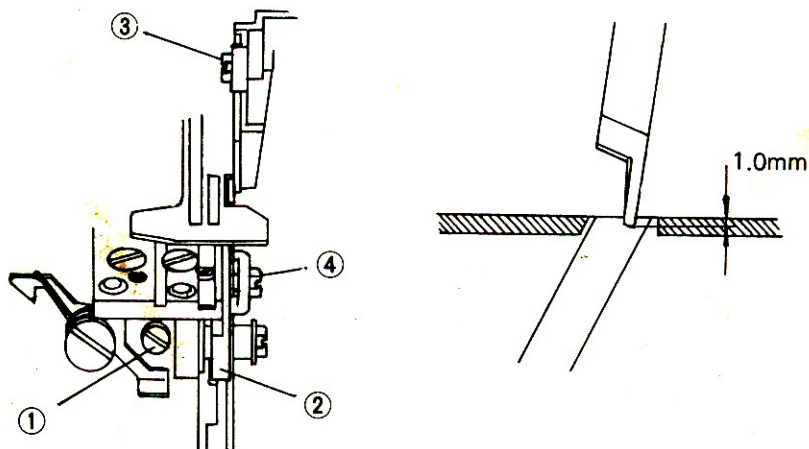

Fig. 14
(1) Upper Knife Replacement Fig. 14
- Loosen Screw ① and push Lower Knife Holder ② to the left then slightly tighten Screw ①
- Remove Screw ③ and old Upper Knife.
- Slightly tighten Screw ③ with new Upper Knife.
Cambio de la cuchilla superior. Fig. 14
Remplacement du couteau supérieur Fig. 14
(2) Lower Knife Replacement Fig. 14
- Loosen Screw ① and push Lower Knife Holder ② to the left then slightly tighten Screw ①.
- Remove Screw ④ and replace new Lower Knife.
- Slightly tighten Screw ④ with new Lower Knife.
Cambio de la cuchilla inferior. Fig. 14
Remplacement du couteau inférieur Fig. 14